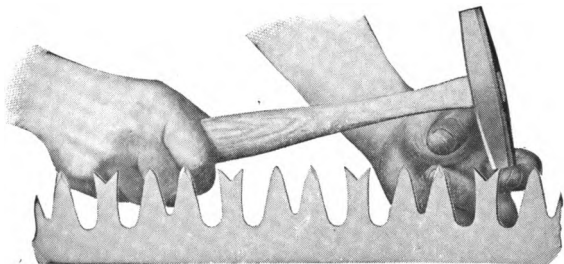

Fig. 2—METHOD OF SWAGING RAKERS
their length, after which each raker point should be swaged or bent outward and downward by the use of the swaging hammer, as shown in Fig. 2, reducing the length of rakers from  $\frac{1}{16}$  to  $\frac{1}{2}$  of an inch, according to the kind of timber to be cut. The uniformity in the length or height of raker points can readily be gauged by the use of the graduated gauge as shown in Fig. 6. The faces of the gauge are marked from one to six, the gauge being held rigid by small roundhead screw; to adjust gauge loosen the screw and turn gauge so that face opposite number wanted projects above and parallel with steel plate, against which teeth of saw rest, then tighten screw. The points of rakers should just touch the face of gauge. Face marked (1) makes raker  $\frac{1}{16}$  of an inch shorter than cutting teeth; (2)  $\frac{1}{8}$ ; (3)  $\frac{3}{16}$ ; (4)  $\frac{1}{4}$ ; (5)  $\frac{5}{16}$ ; (6)  $\frac{3}{4}$ .